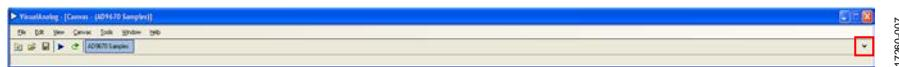
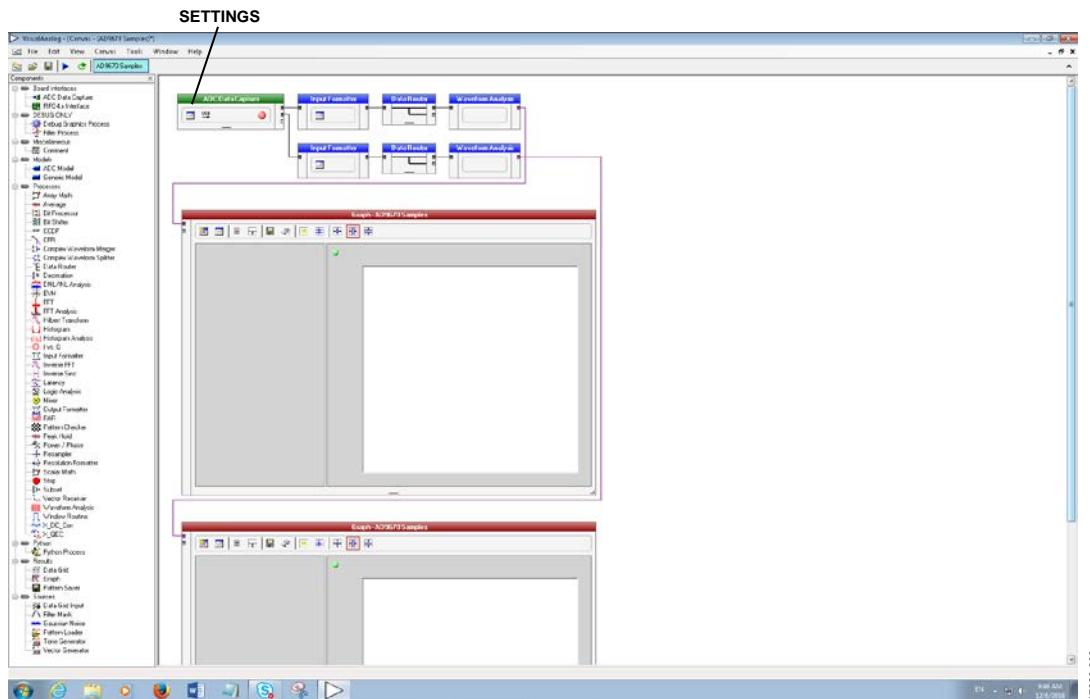
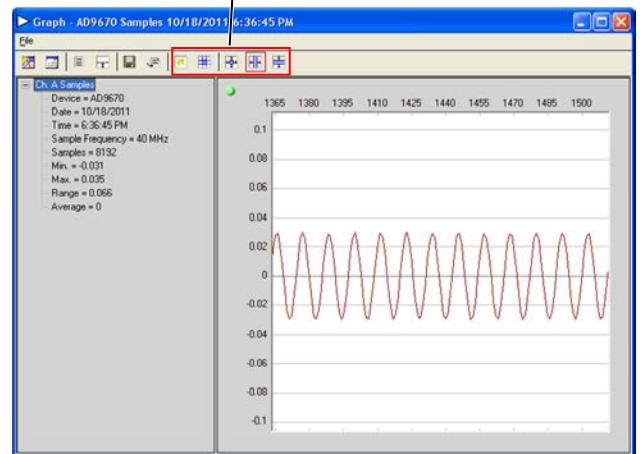

Figure 7. **VisualAnalog** in Window Collapse Mode
Figure 8. **VisualAnalog** Sample Canvas
Figure 10. Data Capture Window
9. If the **VisualAnalog** software opens and only shows the task bar, as shown in Figure 7, click the down arrow on the right side of the window to expand the **AD9670 Samples** canvas (shown in Figure 8) to see the signal processing flow.
10. Next, load the FPGA binary file into the hardware. To load the file, click the **Settings** button in the **ADC Data Capture** block (see Figure 8).
12. The **AD9670** is now running and fully configured for data capture mode. The **VisualAnalog** software offers two data capture modes: onetime and infinite loop. Click the blue right arrow (see Figure 7 or Figure 8) to run the canvas in onetime mode and click the green repeat button (see Figure 7 or Figure 8) to run the canvas in infinite loop mode. The **Samples** canvas then opens two windows showing 8192 time domain samples for Channel A and Channel B (see Figure 10 for the Channel A window).